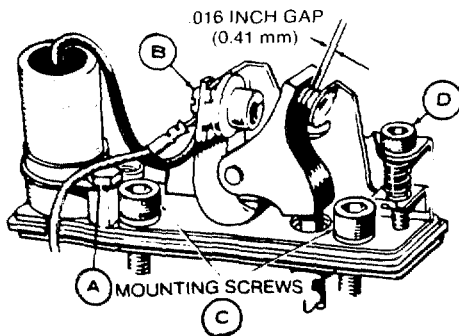
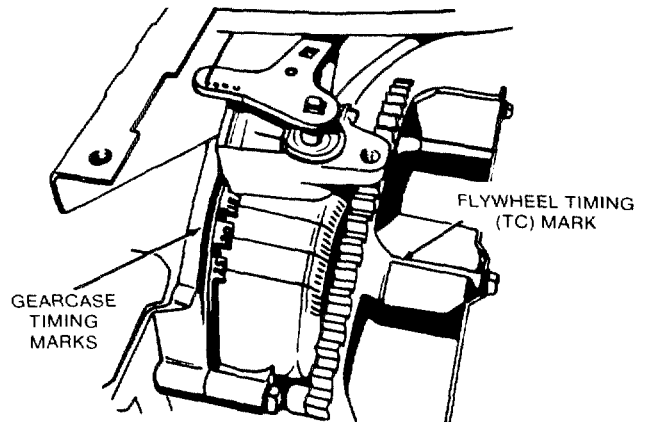

FIGURE 8. SETTING POINT GAP
FIGURE 9. TIMING MARKS
3. Remove condenser (screw A) and detach condenser lead and coil lead (screw B). See Figure 8.
4. Remove two Allen screws (C) and lift breaker assembly from engine.
6. Adjust point gap by rotating crankshaft clockwise (facing flywheel) by hand until the points are fully open. Set the point gap (using flat feeler gauge) at .016 inch (0.41 mm) by adjusting the Allen screw (D) inward or outward (Figure 9). A .016 point gap is equivalent to 16° BTC.
2. Remove blower housing to expose timing marks on top of gearcase cover and flywheel (Figure 9).
4. Connect an ohmmeter or a continuity test lamp set across the ignition breaker points. Touch one test prod to the coil lead terminal (screw B Figure 8).